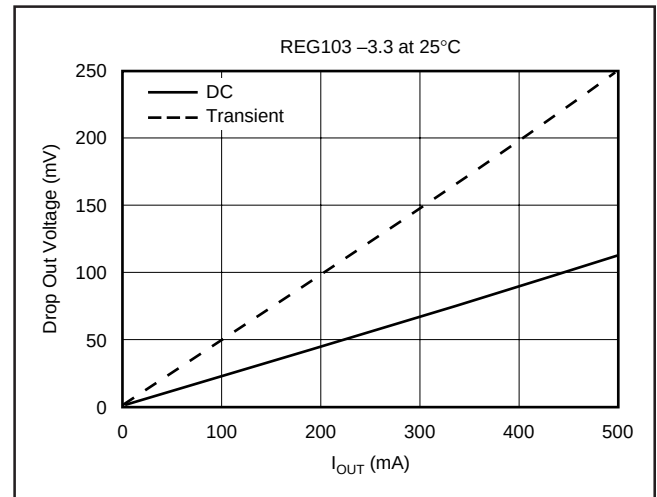

FIGURE 10. Transient and DC Dropout.
regulator's input-to-output resistance is the $R_{DS(ON)}$ of the DMOS pass element (typically 230mΩ). For static (DC) loads, the REG103 will typically maintain regulation down to V_{IN} to V_{OUT} voltage drop of 115mV at full rated output current. In Figure 10, the bottom line (DC dropout) shows the minimum V_{IN} to V_{OUT} voltage drop required to prevent drop-out under DC load conditions.
For large step changes in load current, the REG103 requires a larger voltage drop across it to avoid degraded transient response. The boundary of this "transient drop-out" region is shown as the top line in Figure 10. Values of V_{IN} to V_{OUT} voltage drop above this line insure normal transient response.